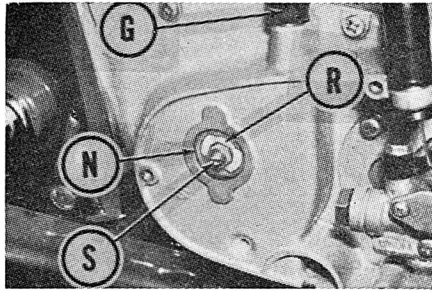
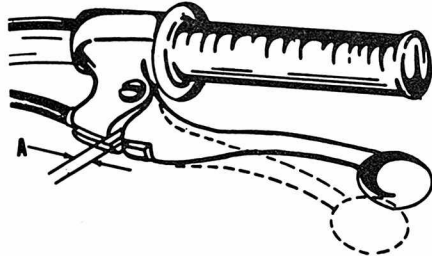

Fig. S3-8—View of engine right side showing clutch adjustment points.
Fig. S3-9—The clutch hand lever free play should be measured at (A).
**CLUTCH CONTROLS.** To adjust the clutch, remove the cover plate from the engine right side cover. Loosen the lock nut and turn the cable adjuster (G—Fig. S3-8) until
(A—Fig. S3-9). If free play is incorrect, cable adjustment (at guide G—Fig. S3-8) may be wrong or cable may be stretched.